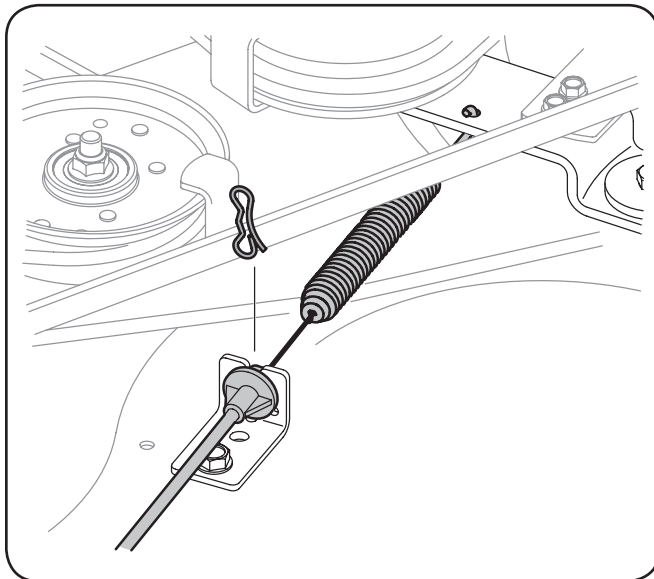

Figure 7-4
9. Carefully remove the deck engage cable from the rear of the cutting deck by removing the bow-tie cotter clip that secures it. Remove the spring from the deck idler bracket. See Fig. 7-4.
- c. Reattach the deck engage cable. See Fig. 7-4.